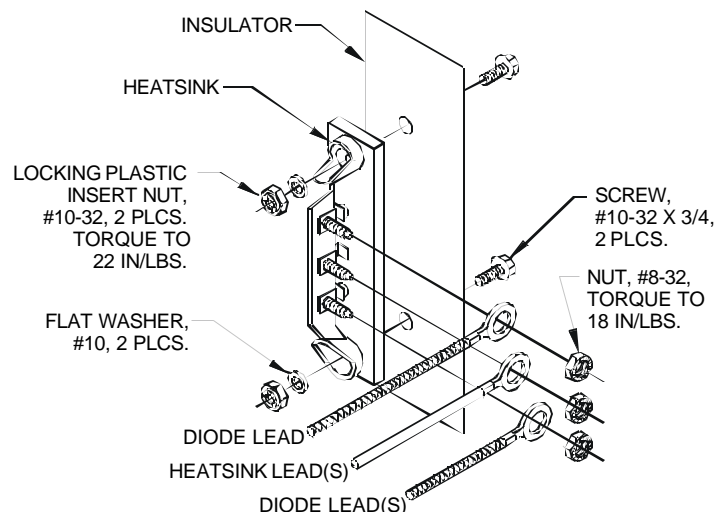

FIG. 2
5. Refer to the installation diagram below to install new heatsink. See Figure 2.
studs. See Figure 2. (Note: If charger is equipped with an automatic electronic timer, also attach red lead from electronic timer to center stud with DC cordset lead and green lead from electronic timer to either top or bottom stud with transformer lead.)